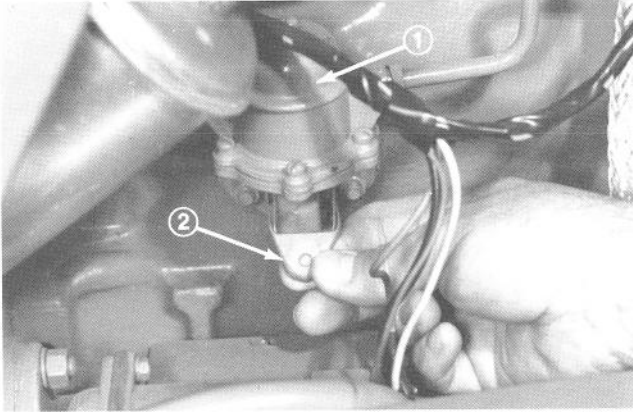

Figure 61
7. Operate the priming lever on the fuel lift pump until pure fuel, free from bubbles, comes out around the vent screw (Fig. 61). Tighten the vent screw.
- Note:** If the priming lever cannot be moved fully, it means that the camshaft lobe is up. The engine must be turned over one revolution so the lobe is down, and the pump can be operated (Fig. 61).
FUEL LIFT PUMP (Diesel) (Fig. 61)
The lift pump is camshaft-operated to pump fuel from the tank to the filter and the injection pump. It is also used to manually prime the filter and pump after running out of fuel, changing the filter element, or any time the fuel lines are disturbed. Pump the lever up and down to operate the pump (Fig. 61). If the lever cannot be moved fully, apparently the camshaft lobe is up, and the engine must be turned over one complete revolution to get the cam lobe down so the lever can be operated.